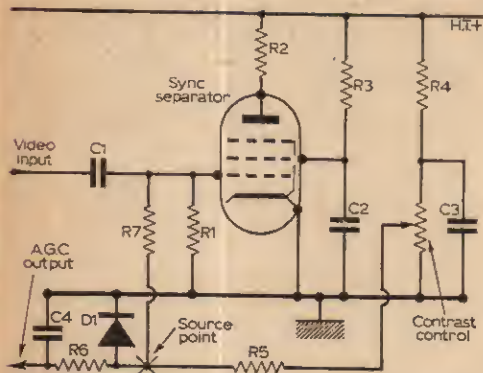

Fig. 15: Simplified circuit of mean-level a.g.c. system.
If there is no control of contrast and a temporary short-circuit of the a.g.c. line to chassis increases the gain, the contrast control network should be suspected. This can be a considerably more complicated circuit than that shown in Fig. 15, and again some care must be taken when dealing with high value filter resistors which may have changed in value. An example might be when replacement of D1 or C4 only partially cures the fault. R5 or R6 may have changed in value if the set was operated under fault conditions for any length of time at minimum contrast setting. Temporarily shunting these resistors should not alter the gain drastically if all is in order. If it does, look for a "high" resistor at the point of test.
Control of the amount of feedback voltage is made by a compensating positive voltage being fed to the a.g.c. line. This is conveniently done by arranging the contrast control as part of a potentiometer network across the h.t. line, taking off the required positive voltage at its slider. Fig. 15 shows the rudiments of the system. The interesting points to note are the time constants of the circuit and the relative voltage levels. R5, R6 and R7 will all be resistors of more than 1MΩ and the screen resistor of the pentode, R3, will also be a high value. The anode resistor R2, however, will be much lower in value, and in practice may be part of a network, used to tap off the field and line sync pulses. The capacitors in this circuit would typically be 0.1μF.
a.g.c. source, disconnecting at point X (Fig. 15) and inserting a fixed bias voltage in place of the a.g.c. An ordinary ohmmeter on the "Ohms" range is suitable, with 1.5 or 3V battery used as d.c. source (not on the high ohms ranges, which often use a battery of higher voltage). The potential on the test leads is opposite to the polarity markings, and the meter can be connected each way round, noting the effect on the picture. With the negative potential applied to the a.g.c. line, the meter should decrease, and vice versa. This test quickly determines whether the trouble is in the controlled stages or in the source stages and contrast network.